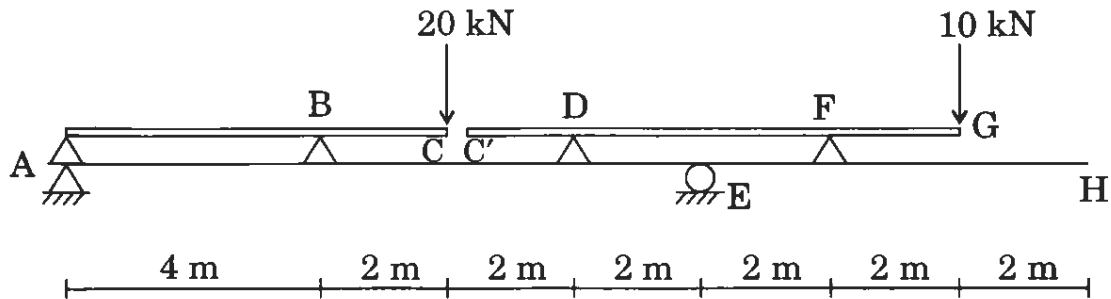

Figure 3
- (e) A girder and floor beam construction subjected to concentrated loads is shown in Figure 3. Draw the free body diagrams and determine support reactions.